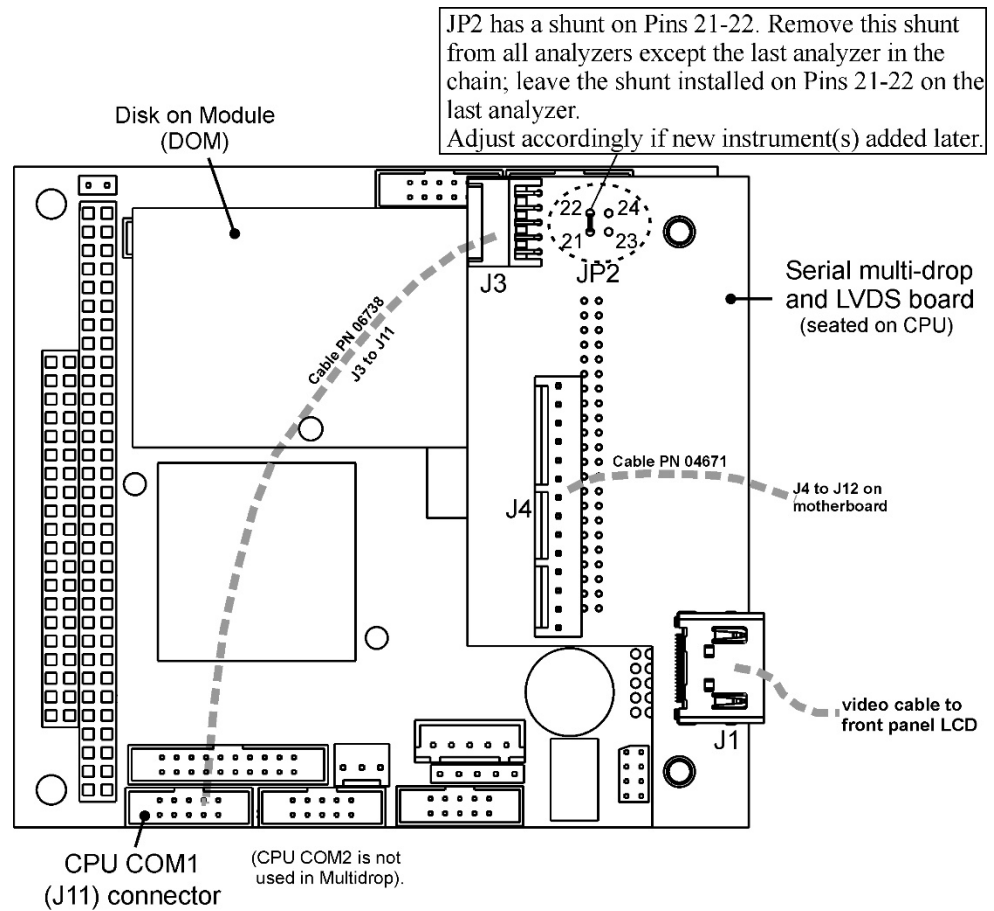

Figure 3-14: Jumper and Cables for Multidrop Mode
In each instrument with the Multidrop option there is a shunt that jumpers two pins on the serial Multidrop and LVDS printed circuit assembly (PCA), as shown in Figure 3-14. This shunt must be removed from all instruments except that designated as last in the multidrop chain, which must remain terminated. This requires powering off and opening each instrument and making the following adjustments:
2. On the multidrop PCA's JP2 connector, remove the shunt that jumpers Pins 21 ↔ 22 as indicated in Figure 3-14. (Do this for all but the last instrument in the chain where the shunt should remain at Pins 21 ↔ 22).
3. Check that the following cable connections are made in *all* instruments (again refer to Figure 3-14):